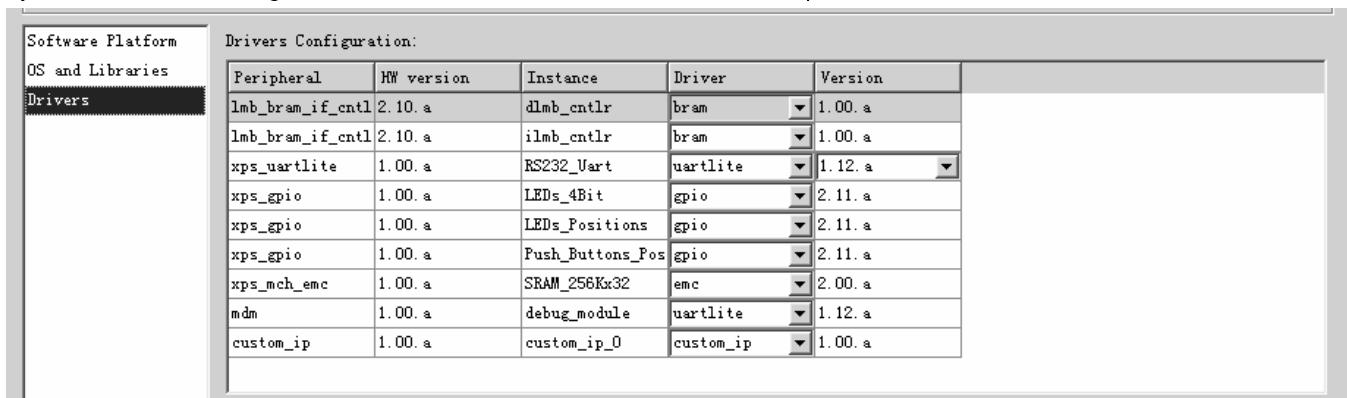

Figure 26: Drivers view
- Select the Drivers view. This view allows you to select the software versions for the peripherals in the system as shown in Figure 26. Notice that the driver version is independent of the HW version.